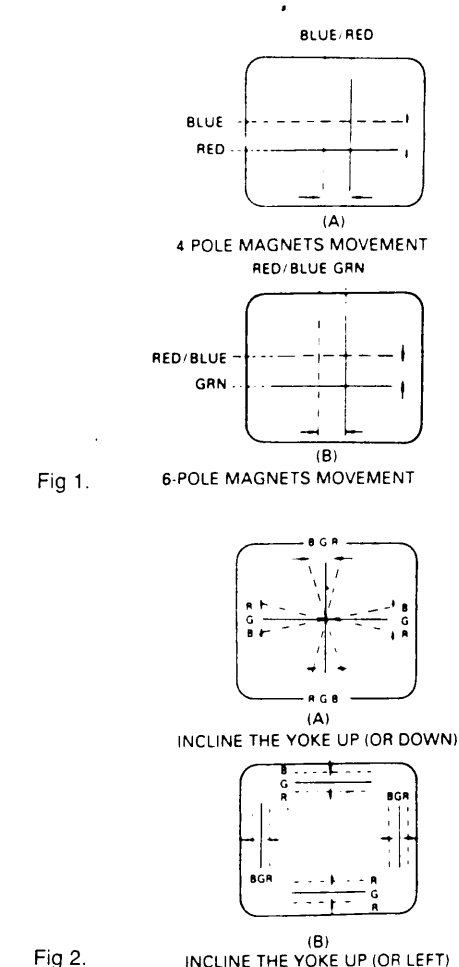

Fig 1.
- Locate the pair of 4 pole magnet rings. Rotate individual rings (change spacing between tabs) to converge the vertical red and blue lines. Rotate the pair of rings (maintaining space between tabs) to converge the horizontal red and blue lines. (Refer to fig. 1(A)).
- After completing red and blue centre convergence, locate the pair of 6 pole magnet rings. Rotate individual rings (change spacing between tabs) to converge the vertical red and blue (Magenta) and green lines. Rotate the pair of rings (maintaining spacing between tabs) to converge the horizontal red and blue (Magenta) and green lines. (Refer to fig. 1(B)).